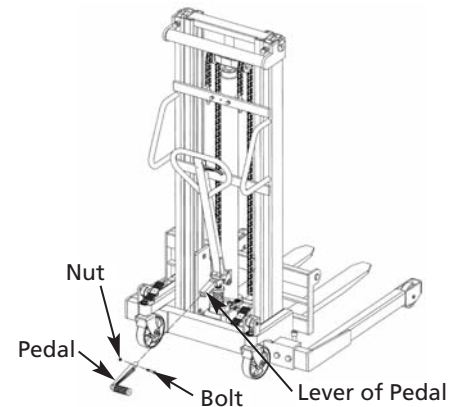

Figure 4 – Pedal Assembly
See Figure 4.
1. If the forks do not elevate while pumping in the RAISE position, turn the adjusting nut (Ref. No. 4, Fig. 4) and/or set screw (Ref. No. 34, Fig. 15A) counterclockwise until the forks elevate while pumping in the RAISE position.